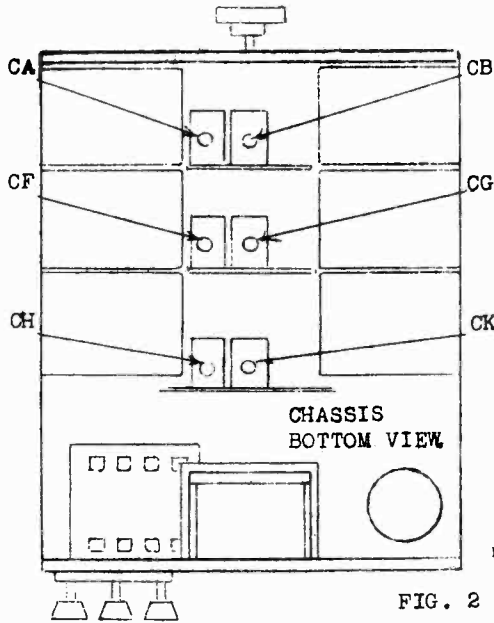

FIG. 2
- Band 1 .2 megacycles, Band 1 Oscillator Series Padder (See Figure 2)
- Band 1 .4 megacycles, Band 1 Oscillator Parallel Padder (See Figure 2)
- Band 2 700 kilocycles, use Band 2 Oscillator Series Padder (See Fig. 2)
- Band 2 1200 kilocycles, use Band 2 Oscillator Parallel Padder (See Fig. 2)
- Band 3 4 megacycles, use Band 3 Oscillator Parallel Padder (See Fig. 2)
- After the calibration has been established by means of these adjustments, the respective bands are lined up, insofar as their radio frequency circuits are concerned, by adjustment of the respective Band padders for the radio frequency grid and the detector grid. Figure 2 shows the detector and r.f. padder for each band. Adjustments are to be made on a given modulated signal with an output meter across the headphones and adjustments left at the position giving maximum output meter reading.
Next turn the switch to position four and feed a signal of 7 Mc. into the receiver and adjust the tuning control of the DB-20 so that it sets on 7 Mc. Under these conditions check the setting of C₄ for peak output. (Fig. 2).